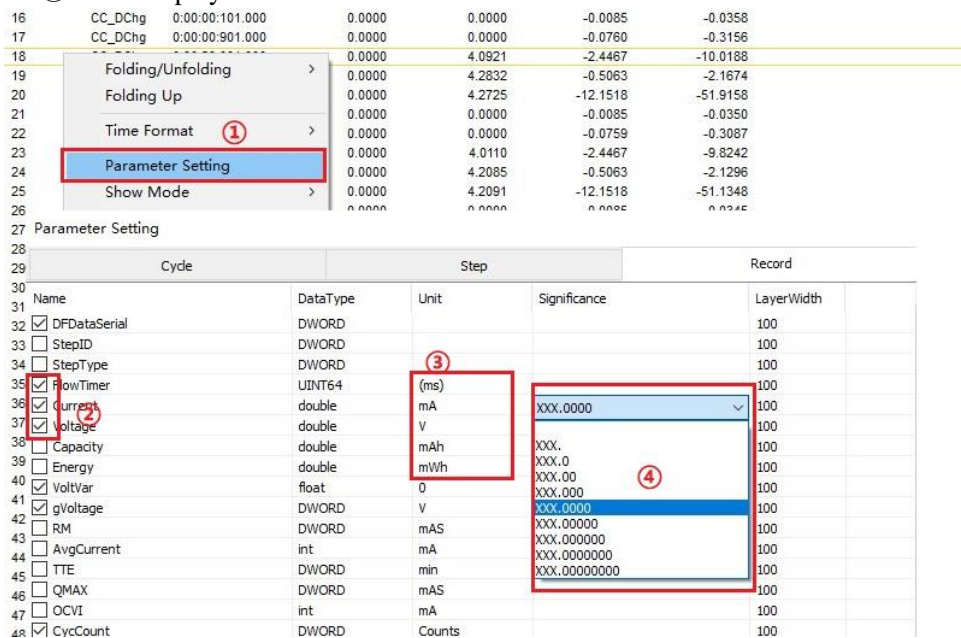

Figure 6-29 Unit setting
- Unit setting: Users can set the specific unit of data display as well as the quality of active substance and battery capacity as required, as shown in the figure below: (Figure 6-29)
- ① Parameter setting
- ② Select display variables
- ③ Unit switch
- ④ Data display format